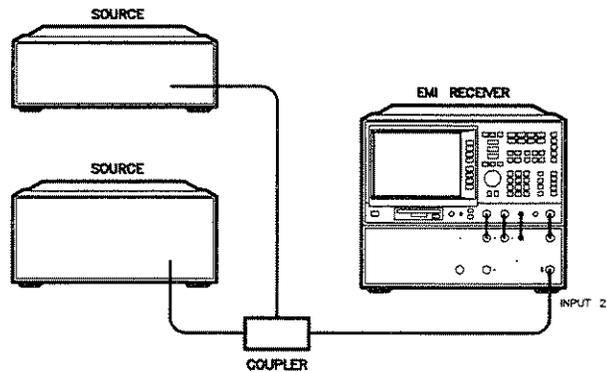

Figure 6-1. Set-Up for Obtaining Two Signals
1. Obtain two signals with a 100 kHz separation by connecting two signal sources to the receiver input as shown in Figure 6-1.